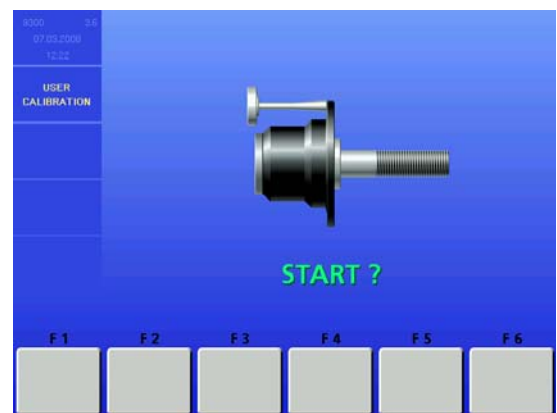

Figure 48
5. After the balancer comes to a stop raise the wheel guard and screw the calibration slug into left side of the flange plate. Lower the wheel guard and press the **“START”** key. The balancer should spin and come to a complete stop. Once the shaft stops the display should display **“OK”** and the speaker sounds the Hofmann **“TüDüLü”** tone sound. See Figure 48.